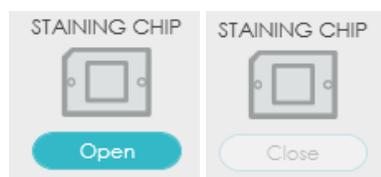

Figure 12) Staining chip button indicating when the stainer can be opened (left) and when it is open (right)
- Clicking “Open” opens the stainer to access the loaded slide (Figure 12).